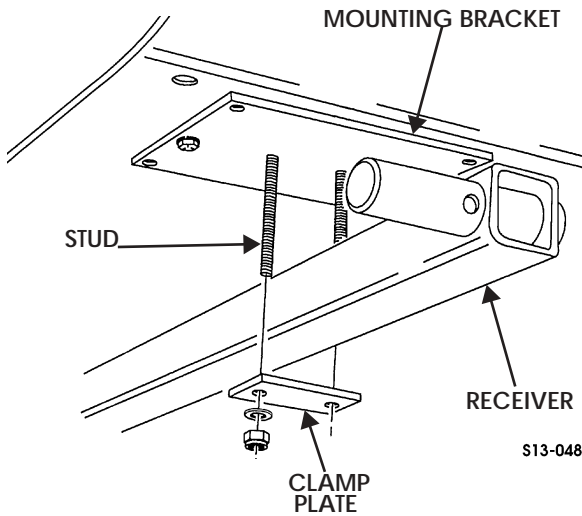

Figure 13-49: Receiver and Clamp Plate
6. Remove four nuts, washers, and two clamp plates securing two receivers to studs on mounting brackets (Figure 13-49).
5. Install receiver to studs on two mounting brackets with two clamp plates, four washers, and nuts (Figure 13-49).